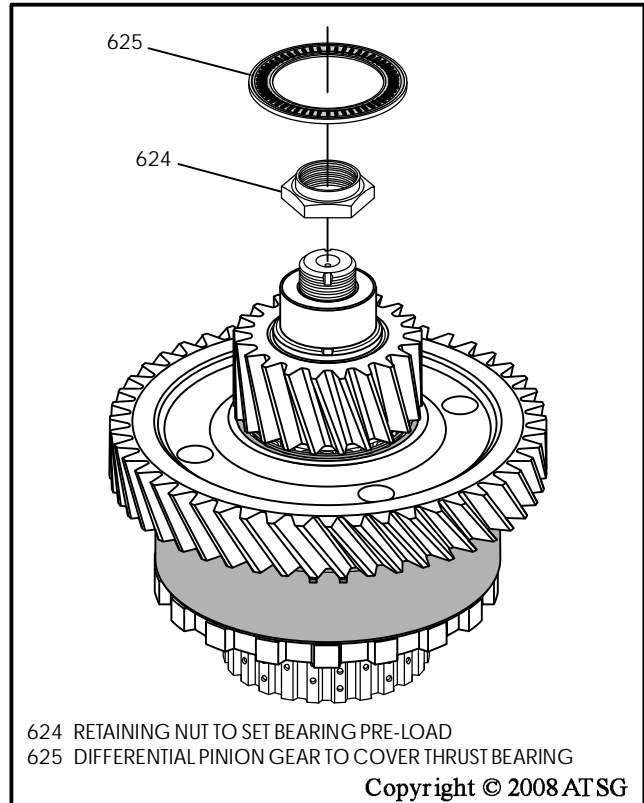

Figure 106
14. Install the nut using a 1-1/4" socket, as shown in Figure 106, and torque the nut to 62 N·m (45 ft.lb.), and "stake" the nut into the groove with a punch.
15. Install differential pinion gear to cover thrust bearing, as shown in Figure 106, and retain with small amount of Trans-Jel®.